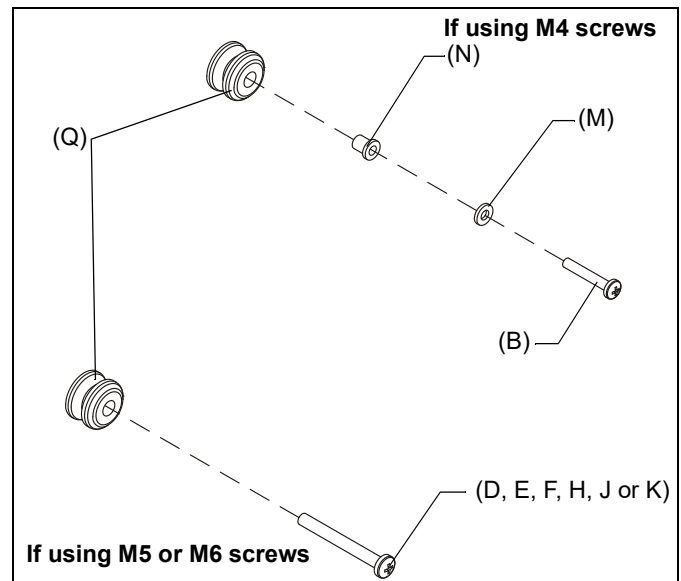

Figure 7
1. **If mounting screw is M4**, attach four mounting buttons (Q) using four shoulder washers (N), four M4 washers (M) and four M4 screws from Bag A. (See Figure 7)
2. **If mounting screw is M5 or M6**, attach four mounting buttons (Q) using four M5 or M6 screws from Bag B or Bag C. (See Figure 7)